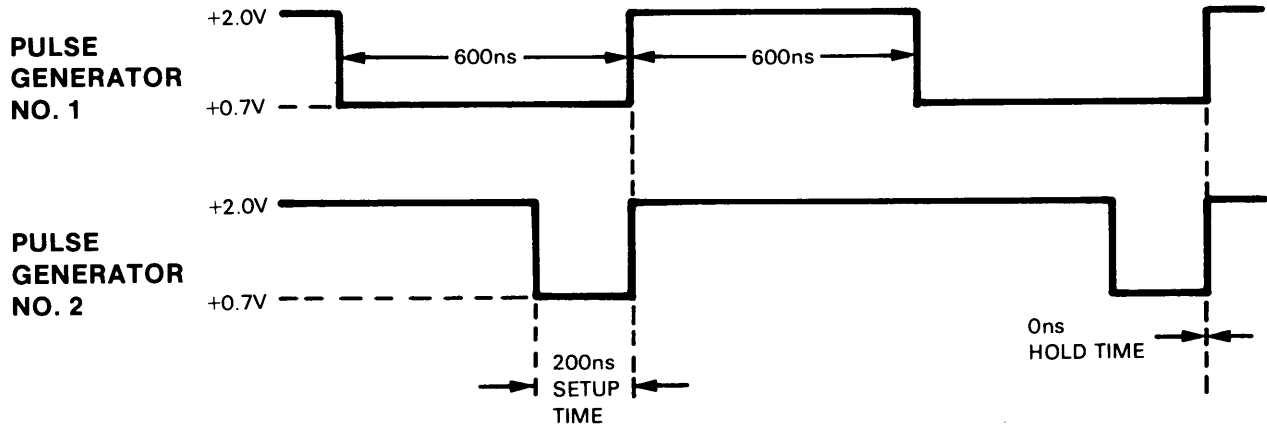

Figure 4-7. Address Lines Test Waveforms
- d. Adjust pulse generators for waveforms shown in figure 4-7.